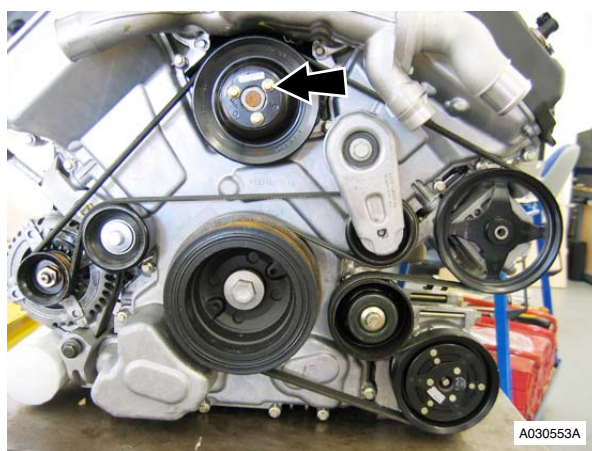

Figure 2
17. Loosen the three M6 attachment screws for the water pump pulley (Refer to Figure 2).